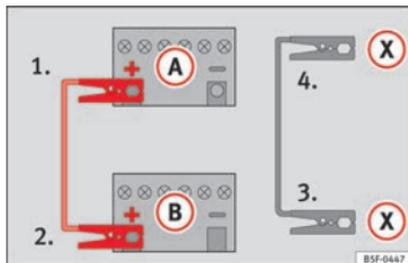

Fig. 190 Diagram of connections for vehicles with Start Stop system
- **For vehicles with Start-Stop system:** connect one end of the *black* jump lead (X) to a suitable ground terminal, to a solid piece of metal in the engine block, or to the engine block itself »» **Fig. 190**.
5. Connect the other end of the *black* jump lead (X) to a solid metal component bolted to the engine block or to the engine block itself of the vehicle with the flat battery. Do not connect it to a point near the battery (A).